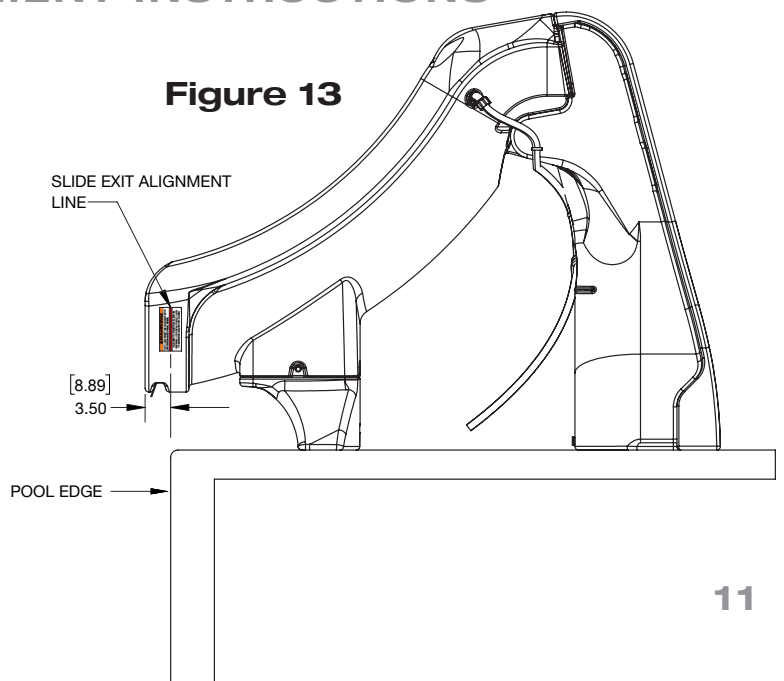

Figure 13
1. Place the assembled slide on the deck in a location that meets the requirements detailed in Manufacturer's Placement instructions on pages 13, 14 and 15. The Slide may be angled slightly providing all dimensions are maintained as noted in the Manufacturer's Placement Instructions. **The red lines on the sides of the runway exit warning label must be aligned with, or overhanging the edge of the pool (Figure 13).**
1. The critical dimensions for placement of the SlideAway are shown in **Figures 13, 14 and 15**.
- A. The red lines on the sides of the runway exit must be aligned with, or overhanging the pool edge, see **Figure 13**.